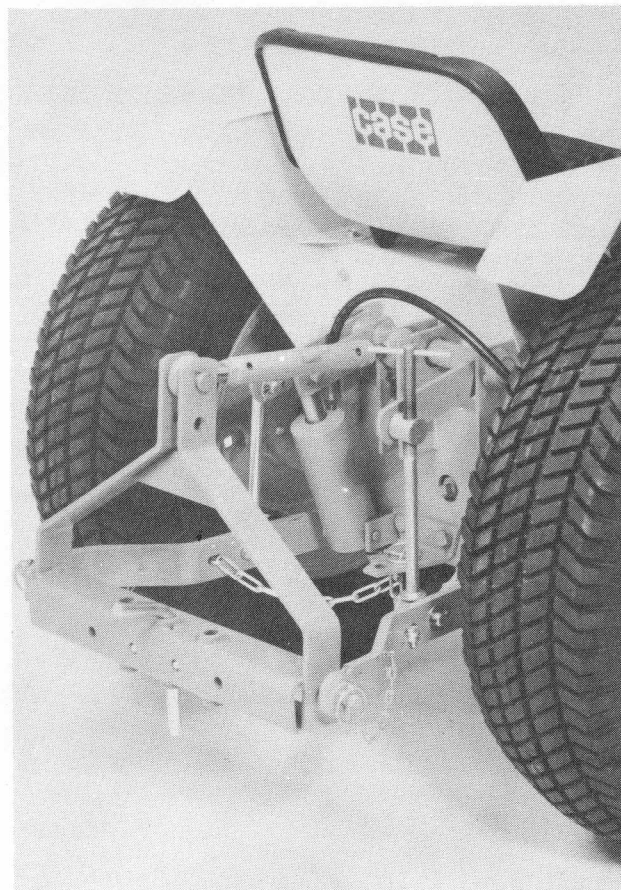
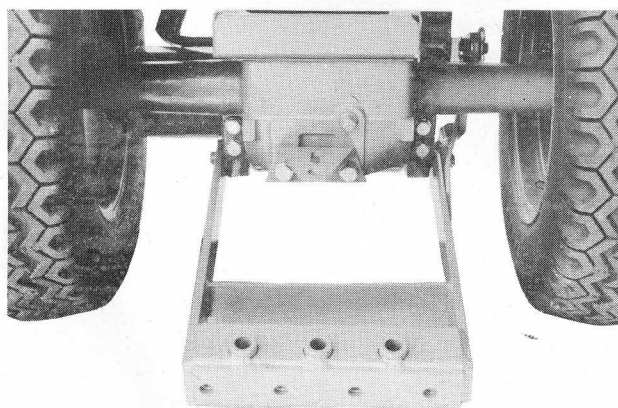

Figure 10. Model H26 3-Point Hitch with Model H27 Sleeve Adaptor Attached
Figure 15. Model H22 Sleeve Hitch Mounted on Model 222 Tractor
D. The tiller is designed to mount on either the Model H22 or H24 Sleeve Hitches, or will mount on the Model H26 3-Point Hitch with the Model H27 or F27 Sleeve Adaptor. The Model H22 Sleeve Hitch for 220 and 222 tractors is shown in Figure 15. The Model H26 3-Point Hitch and Model H27 Sleeve Adaptor 442 and 444 tractors are illustrated in Figure 10.
NOTE If the sleeve or 3-point hitch with sleeve adaptor attachments are not already on the tractor, install it at this point. See Figure 15. Installation Instructions are provided with the hitches.